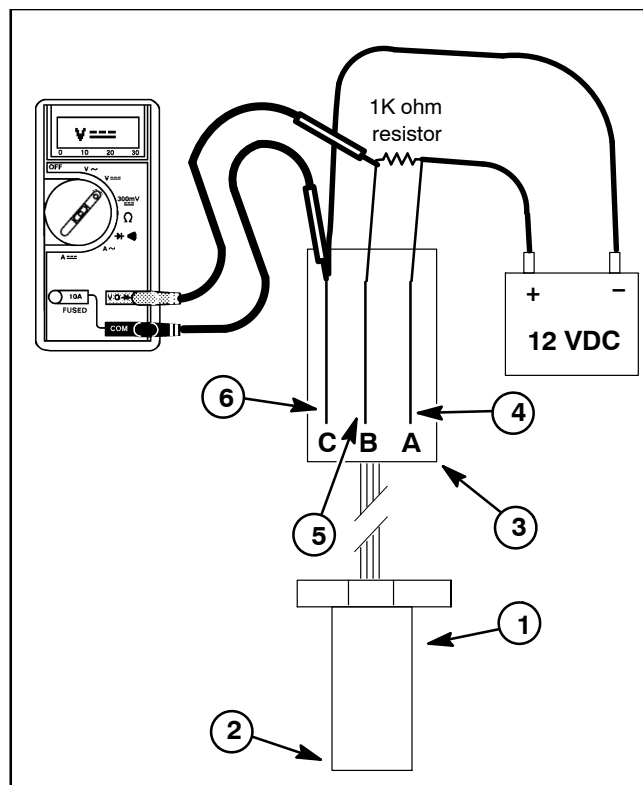

Figure 39
5. Using a +12 VDC battery, a multimeter, a 1K ohm resistor and appropriate jumper wires, connect the battery and multimeter to the speed sensor using Figure 39 as a guide.